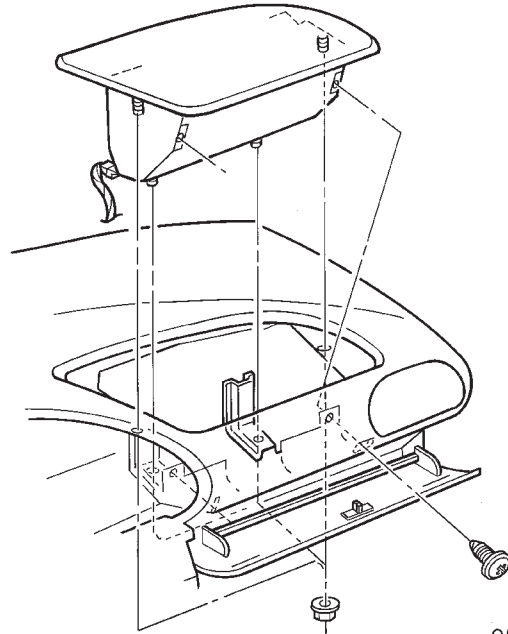

Fig. 8 Passenger Airbag Removal
- (2) Open and lower glove box fully to gain access to Passenger Airbag Module (PAB) attaching screws inside of the glove box (Fig. 8). Glove box removal not required.
- (3) Disconnect wire connector from the Passenger Airbag Module.
- (4) Remove the four nuts and two screws attaching airbag assembly to the instrument panel collar.
- (5) Lift Passenger Airbag Module up and out of panel cavity.